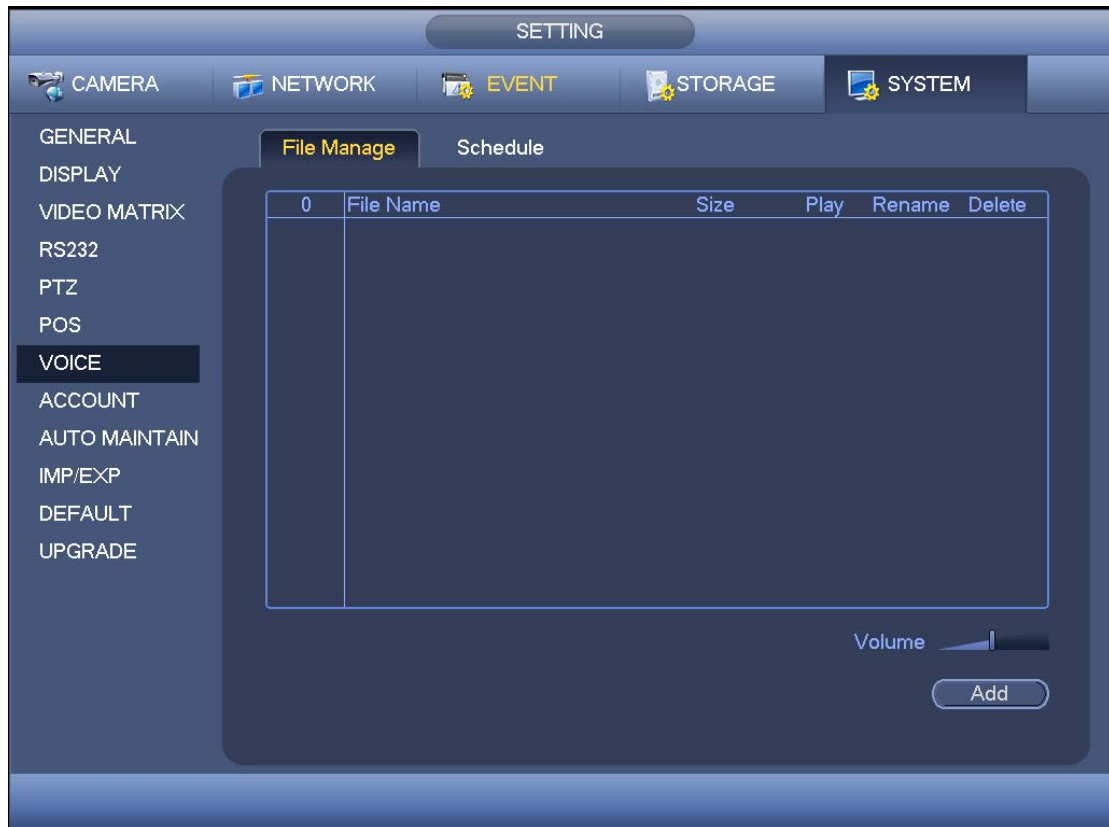

Figure 4-130
From main menu->Setting->System->Voice->File List, Here you can add audio file, listen to the audio file, or rename/delete audio file. Here you can also set audio volume. See Figure 4-130.
- In Figure 4-130, when it is HDD mode, the newly added audio file can be saved on the HDD automatically. You do not need to connect to the USB device if you want to use it the next time.
- In Figure 4-130, when it is USB mode, after you imported, you need to connect the USB device all the time; otherwise, the audio link function may fail. So, if you want to use the audio trigger function, please make sure the audio file is on the UBS device and the USB device has connected to the DVR before the DVR boots up. You need to make sure the USB device connection is always there if you want to manage and use the audio file function.